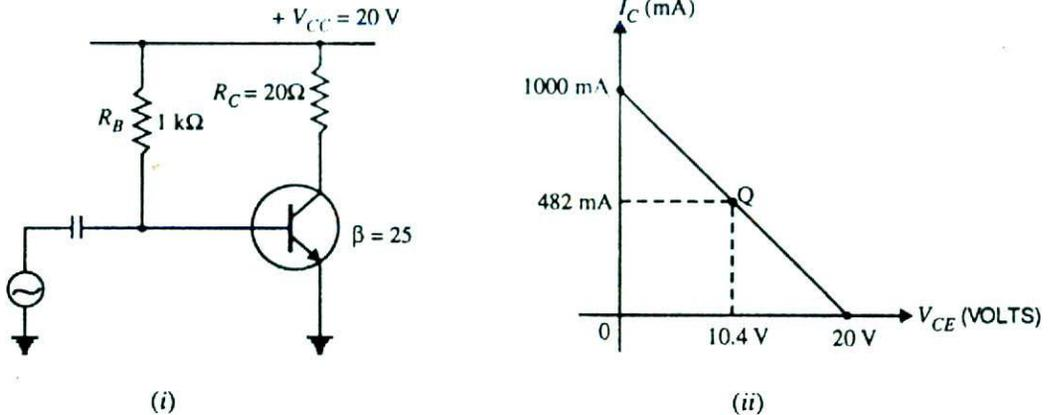

Fig. 14.5
**Example 14.4.** Calculate the (i) output power (ii) input power and (iii) collector efficiency of the amplifier circuit shown in Fig. 14.5 (i). It is given that input voltage results in a base current of 10 mA peak.
**Solution.** First draw the d.c. load line by locating the two end points viz.,  $I_{C(sat)} = V_{CC}/R_C = 20\text{ V}/20\ \Omega = 1\text{ A} = 1000\text{ mA}$  and  $V_{CE} = V_{CC} = 20\text{ V}$  as shown in Fig. 14.5 (ii). The operating point  $Q$  of the circuit can be located as under :